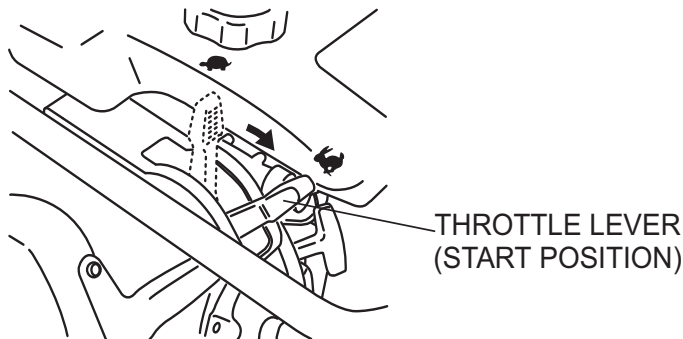

Figure 8. Throttle Lever (Start Position)
1. To start the rammer tamping action, move the throttle lever (Figure 8) **quickly** from **IDLE** to the **START** (↶) position. **DO NOT** move the throttle lever slowly as this may cause damage to the clutch or spring.